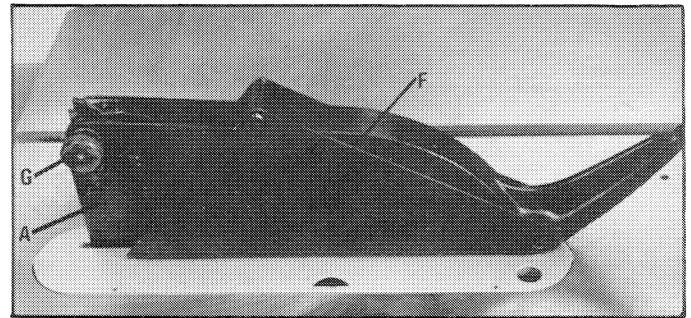

Fig. 28
4. Assemble blade guard (F) to splitter (A) and tighten knurled nut (G) Fig. 28.